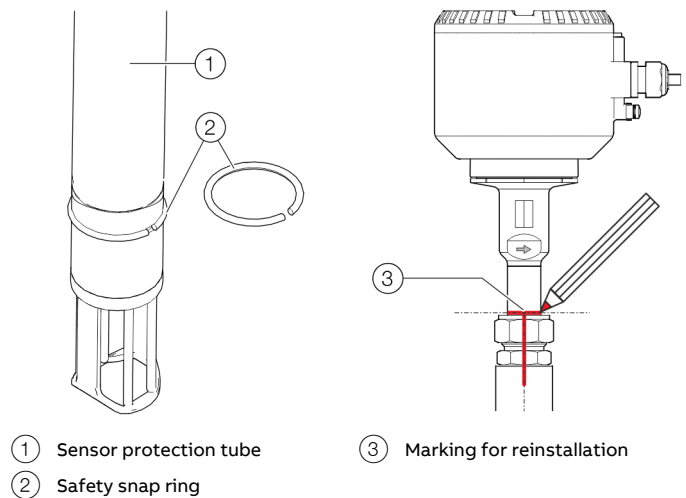
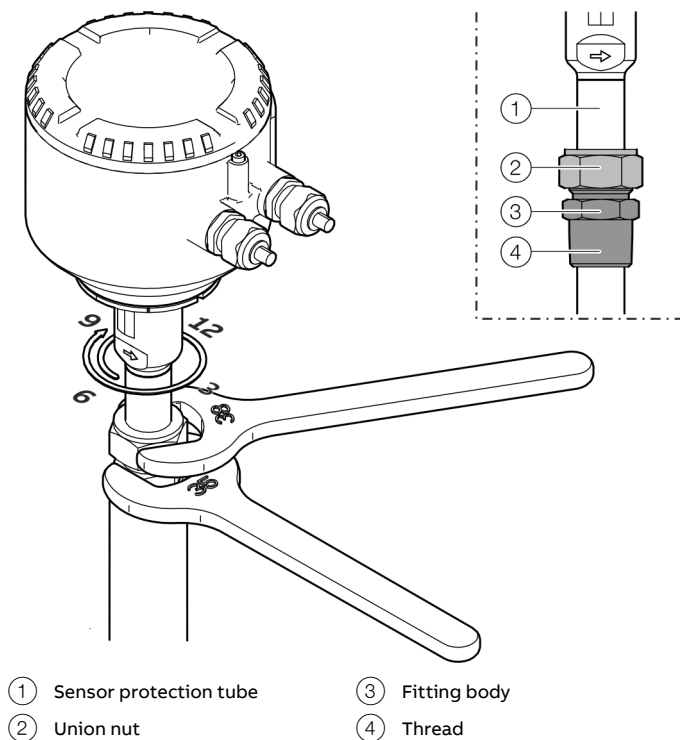

Figure 26: Snap ring and marking
Figure 27: Tighten sensor
2. Insert the safety snap ring using mounting pliers (see Figure 26, Pos. ②).
5. Using a suited marker pen, mark the orientation and height of the sensor on the sensor protection tube, compression fitting and the welding adapter (see Figure 26, pos. ③). The marking on the union nut is also used as a starting position (6 o'clock position, see Figure 27) for the tightening of the compression fitting
3. Using a suited marker pen, mark the orientation and height of the sensor on the sensor protection tube, compression fitting and the welding adapter (see Figure 26, pos. ③).
1. Make sure that the safety snap ring is inserted in the provided snap ring groove (see Figure 26, pos. ②).